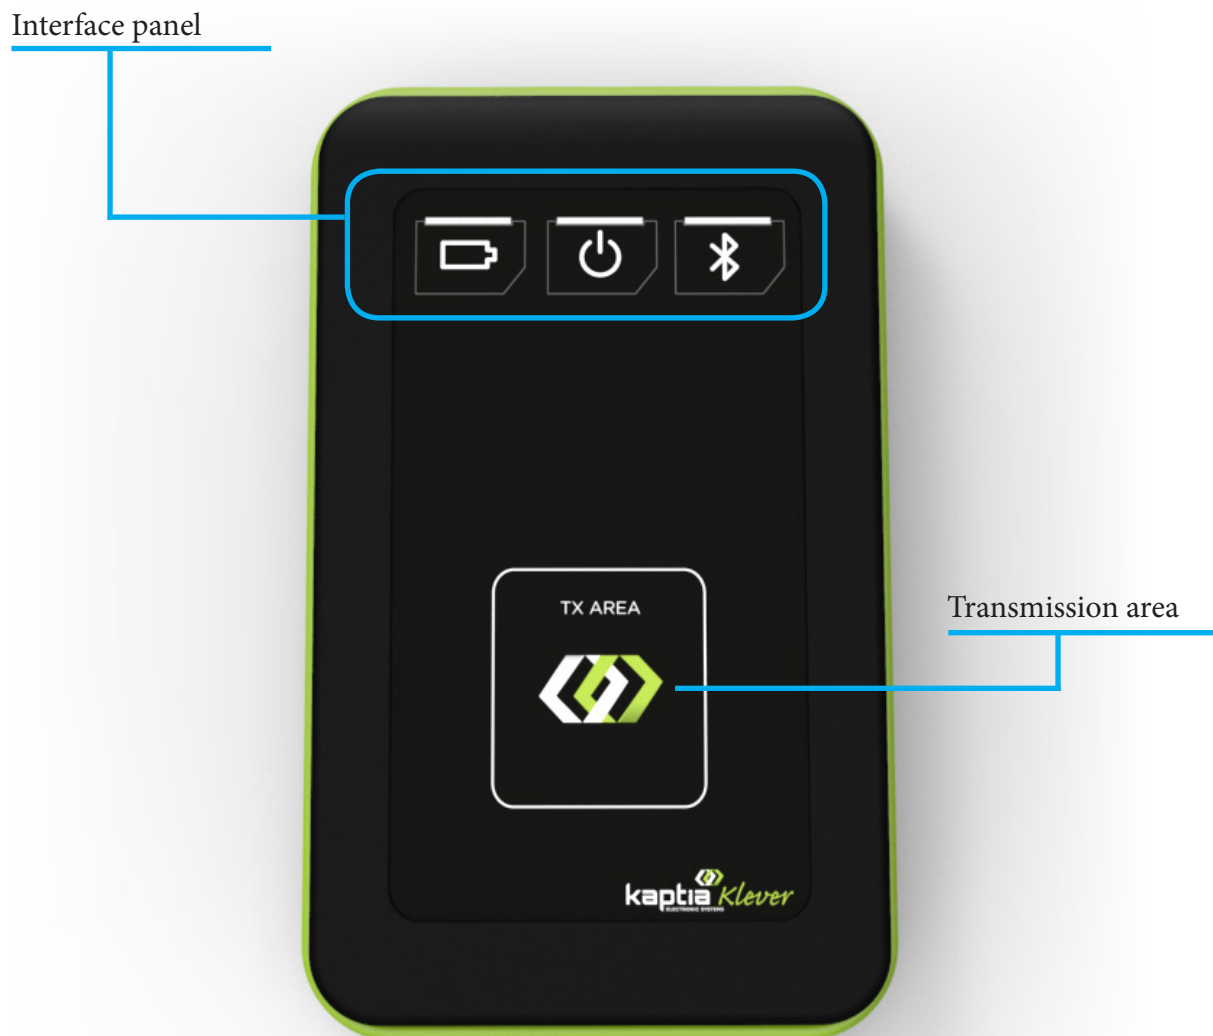
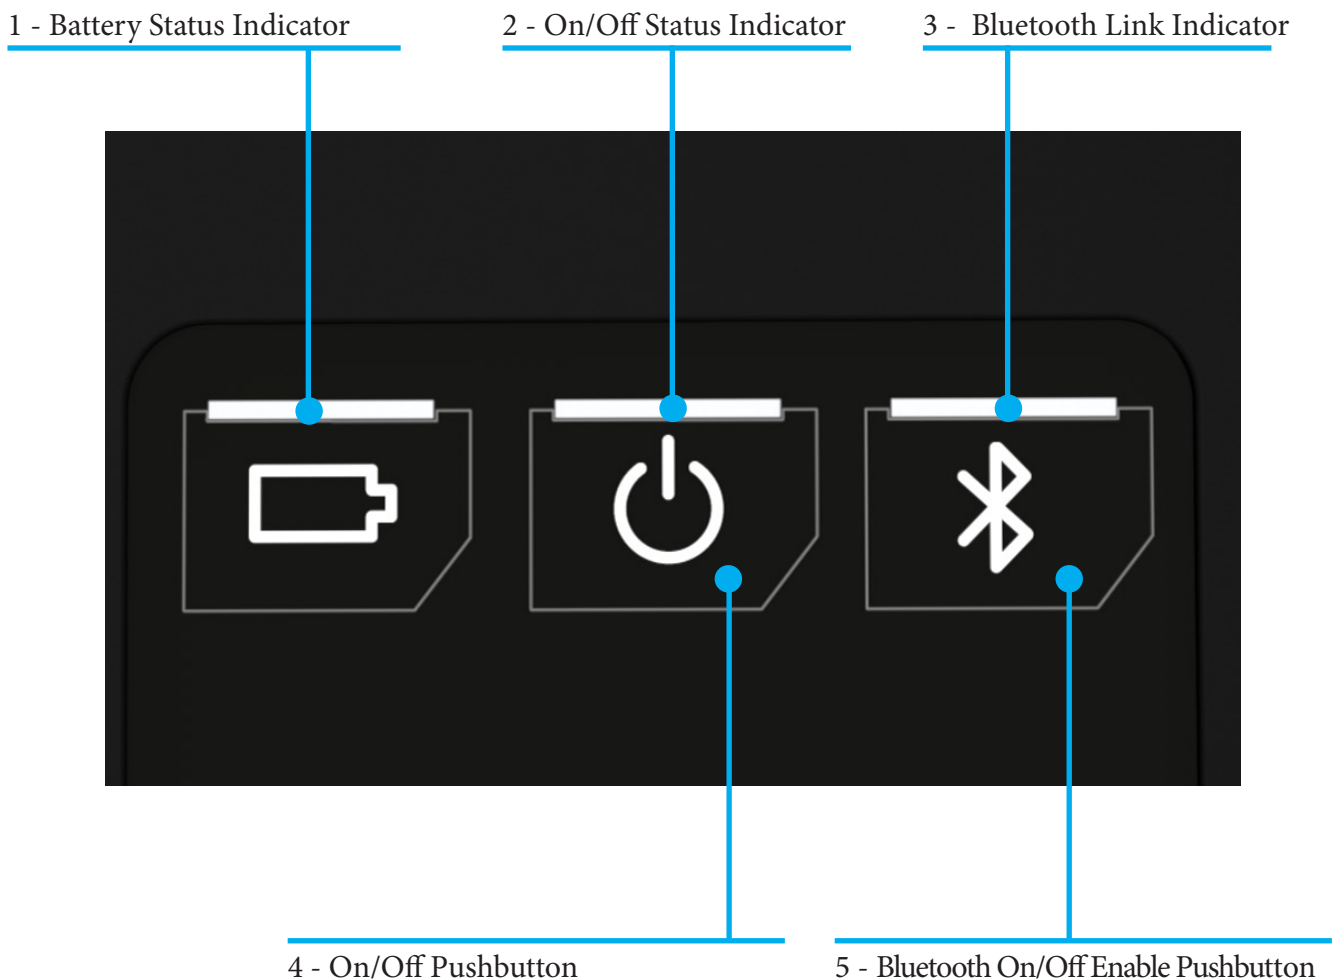

Figure 1: Kaptia *Klever* console
Figure 2: Interface Panel
1. Power on console and the Bluetooth® radio by pressing Bluetooth® button (FIG. 2).
The console has a transmission area (see Figure 1) where the emitter should be put. Transmission inside the area should be enough for getting a correct reading but, in some cases, it is possible that you have to move the emitter around the area in order to get the optimum reading (some emitters has the transmission antenna displaced from the top). When you start the reading process, we recommend waiting until the On/Off Indicator flashes. Check Figure 2.